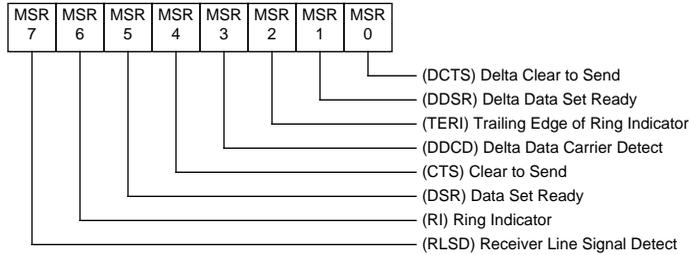

Figure 7. Modem Status Register
MSR(0)-MSR(3) is set to a one. The MSR is a priority 4 interrupt. The contents of the Modem Status Register are described in Figure 7 and the following table.